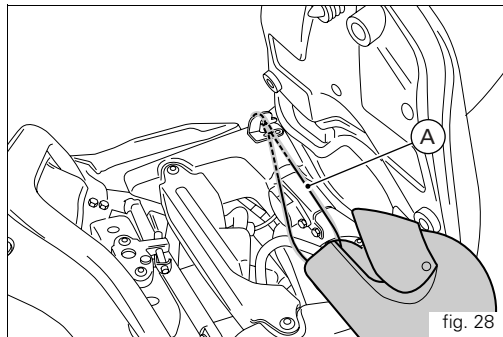

fig. 28
The hook for the helmet holder cable is located under the passenger seat. Pass the cable (A) through the helmet and fit the ends of the cable into the hook. Leave the helmet hanging on the left side (fig. 28) and refit the seat to secure it.